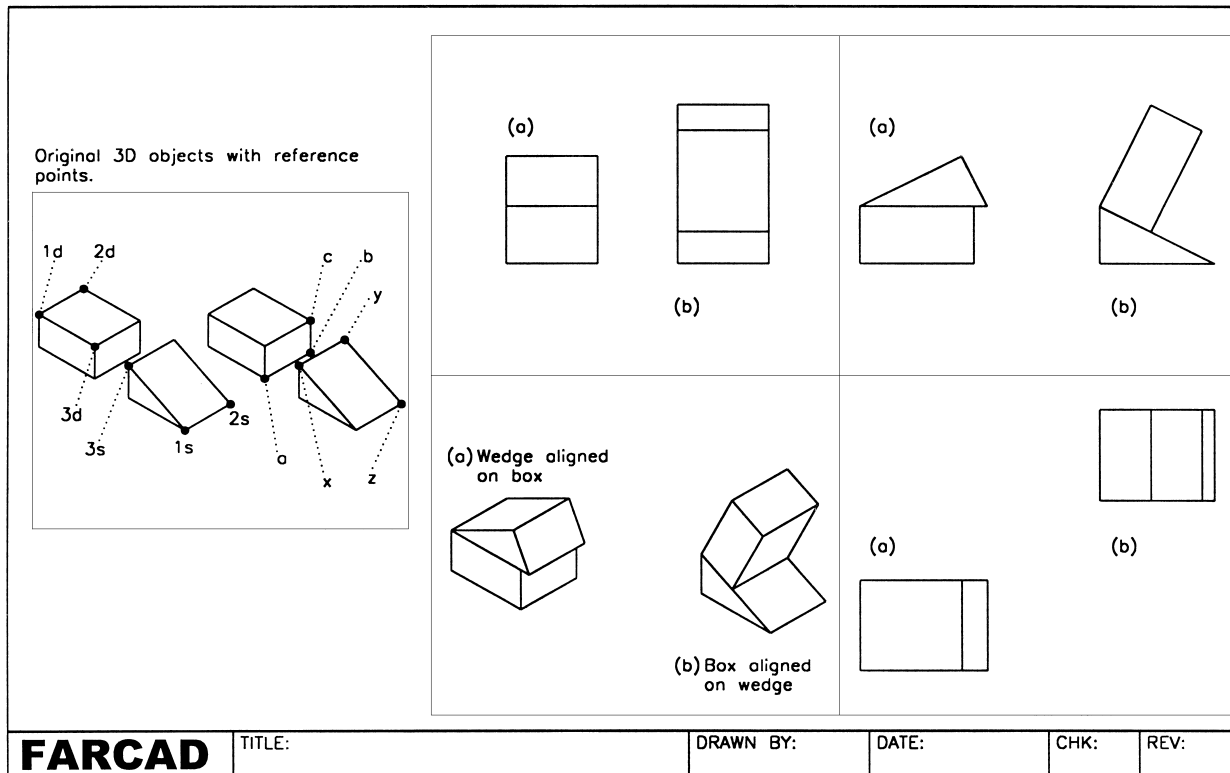

Figure 22.6 The ALIGN command with 3D objects.
- 1 Open your MV3DSTD template file, MVLAY1 tab with UCS BASE and layer MODEL current. Refer to Fig. 22.6